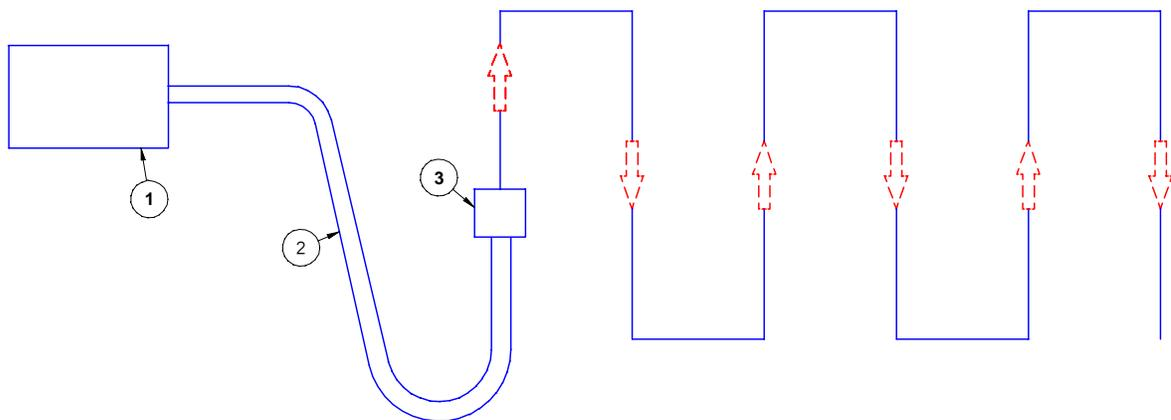

Fig 6.1
4. The scarifier should be driven in a “back-and-forth” direction, away from the dust collector, as depicted in Figure 6.1.